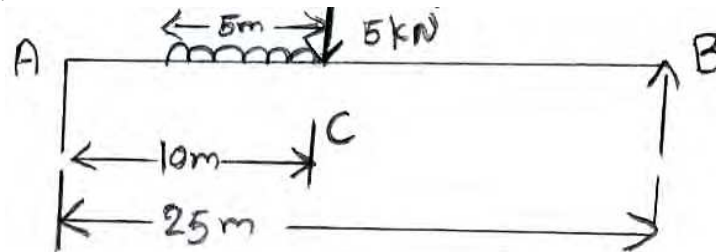

Figure 4
4. A simply supported girder has a span of 25m as shown in figure 4. Draw the influence line for shearing force at a section 10m from one end, and using the diagram determine the maximum shearing force due to the passage of a knife-edge load of 5 kN, followed immediately by a uniformly distributed load of 2.4 kN per meter extending over a length of 5m. The loads may cross in either direction. [16]